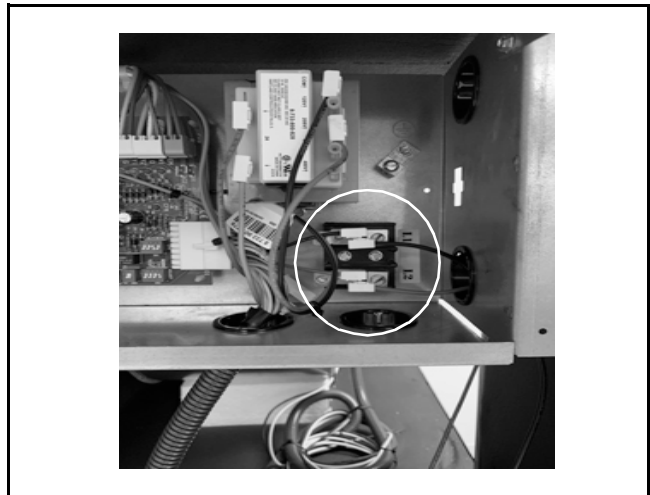

Fig. 22 Compressor 2-Pole Terminal Block Connections
14. Connect the red wire to the L2 terminal of the 2-pole terminal block. (See Fig. 22.)
15. Connect the black wire to the L1 terminal of the 2-pole terminal block (See Fig. 22.)